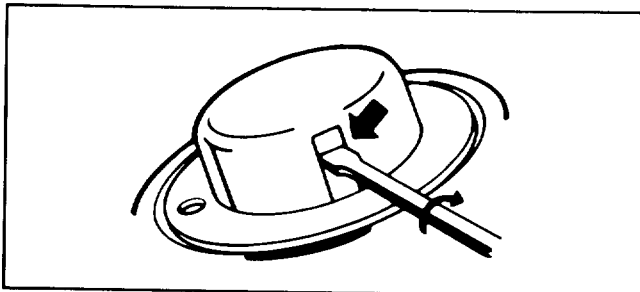

Figure 18
2. To remove empty spool, insert widest possible blade screwdriver snugly into one of two window slots. With screwdriver pressed firmly into window slot, twist screwdriver 1/4 turn. Spool will snap off (Fig. 18).